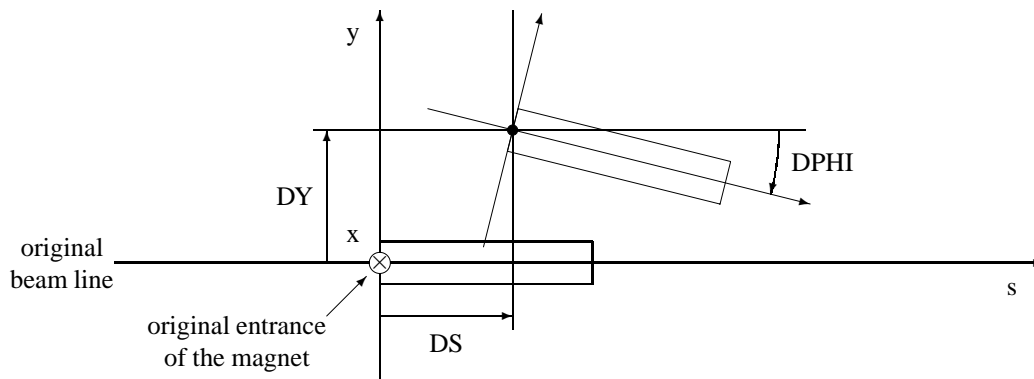

Figure 10.2: Example of Misplacement in the  $(y, s)$ -plane.
**DY** The misalignment in the  $y$ -direction for the entry of the beam element (default: 0 m). A positive value displaces the element in the positive  $y$ -direction (see Figure 10.2).